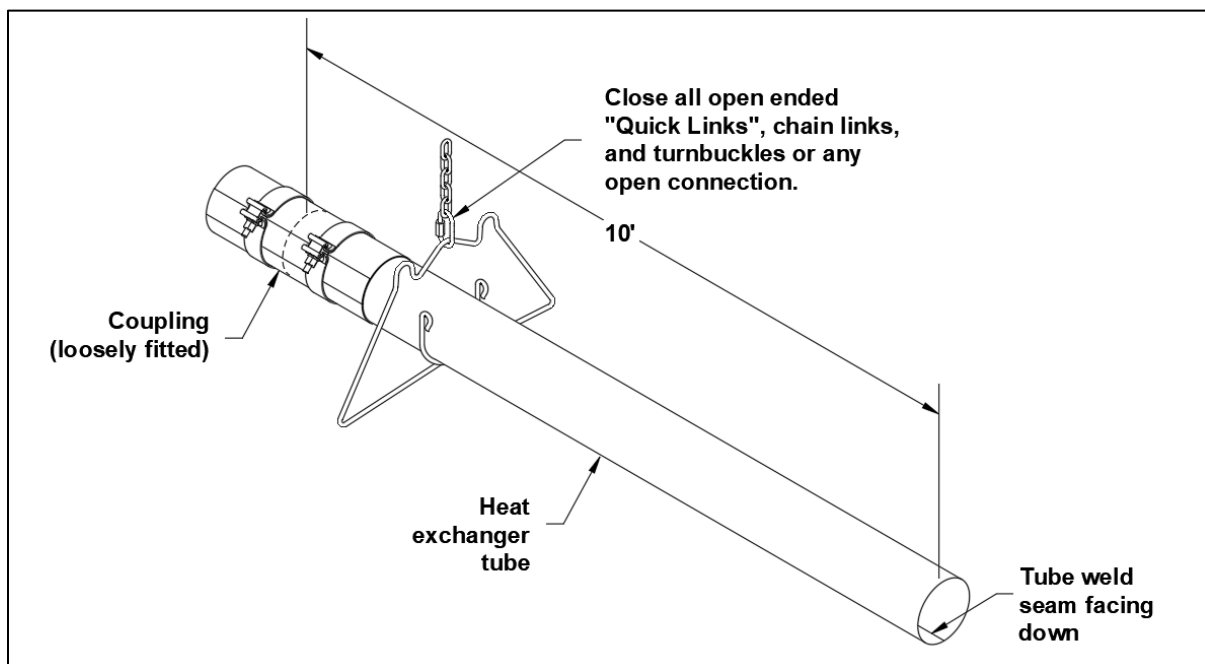

Figure 11: Installation of Heat Exchanger Tube and Coupling
- For all remaining tubes, fit the end of the tube with a coupling refer to Figure 11, (the coupling should be loose).